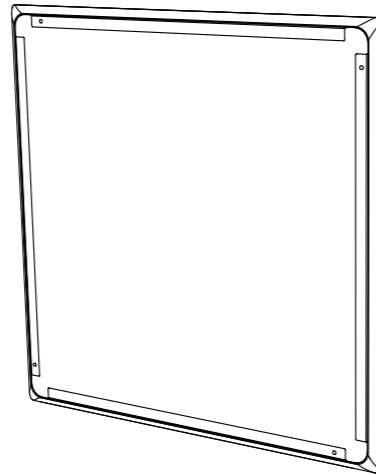

Fig. 19. Install the paint mask
2. Press the paint mask into the front of the back can, where it will be kept in place by magnets. This mask is left in place while the ceiling and frame surround is painted (Fig.19).